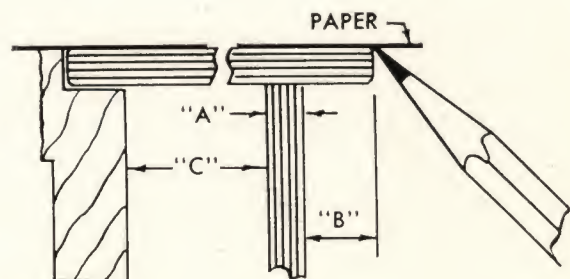

Fig. 4
For Curved or Mitered Glass-on-Glass Cases—lay a sheet of heavy wrapping paper on the counter top and scribe a pencil line to the underneath side of the paper, following the contour of the glass (Fig. 4). Also give the following measurements:
1. Thickness of glass front panel ("A" - Fig. 4).
2. Amount of overhang ("B" - Fig. 4).
3. Inside depth of case ("C" - Fig. 4).